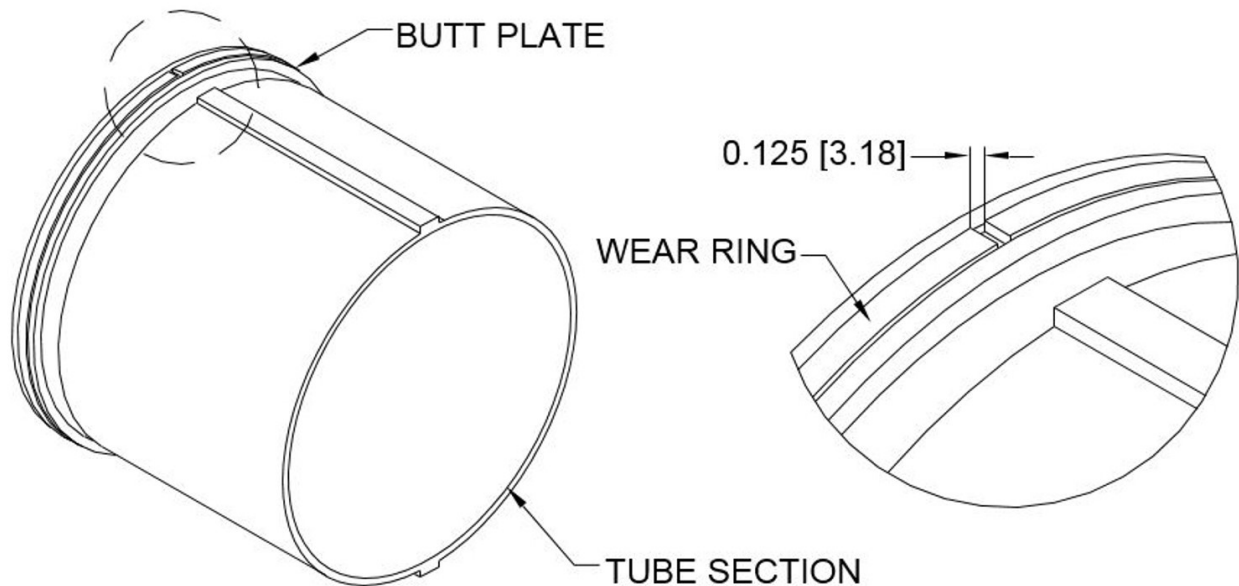

Figure 7-3 Replacing Wear Rings
1. Clean the butt plate and wear ring groove (Figure 7-3).
2. Slide the wear ring over the mast and into the groove. Press the wear ring into the groove to make sure there is at least 1/8 inch (3.18 mm) clearance between the two ends (Figure 7-3). If necessary, cut enough off one end to get the required gap.